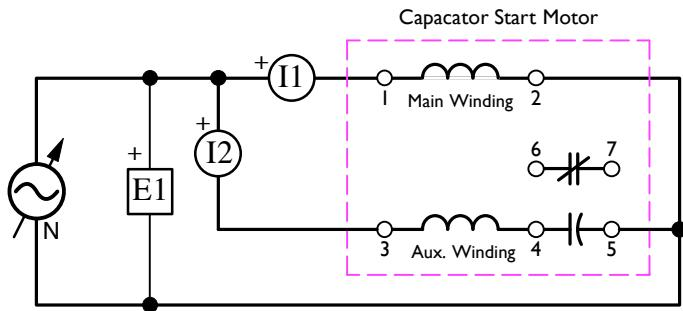

Figure 4.18: Capacitor Start Motor – Main and Auxiliary Windings, and Capacitor
50. **Turn off the power** and turn the voltage control knob fully counterclockwise. Modify the capacitor-start motor circuit by connecting the capacitor on the Capacitor-Start Motor module in series with the auxiliary winding as shown in Figure 4.18.